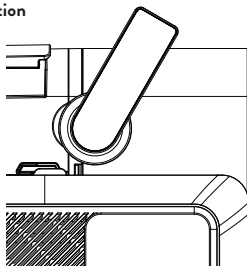

Figure 3
1. Unplug the appliance. Turn the mixing container locking switch to the unlock position (see Figure 3), remove the mixing container, take out the stirring blade and clean it. Dry with a cloth.